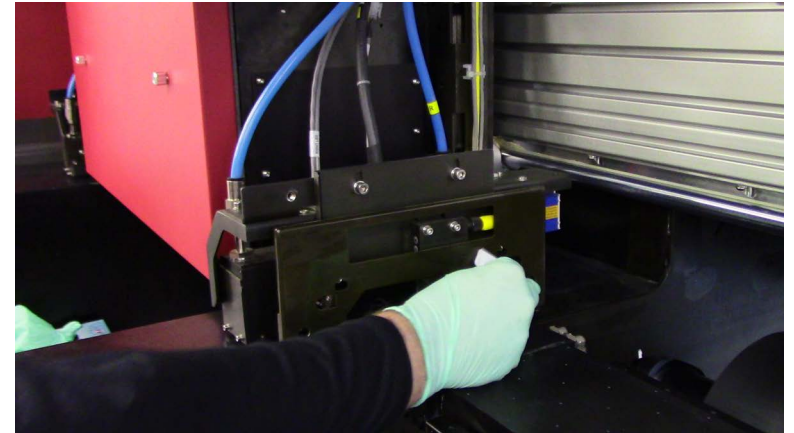

Figure 5-14 Wiping RIGHT Carriage Crash Sensors
2. Using a lint-free wipe and IPA, thoroughly clean the left and right carriage crash sensors, Figure 5-14.